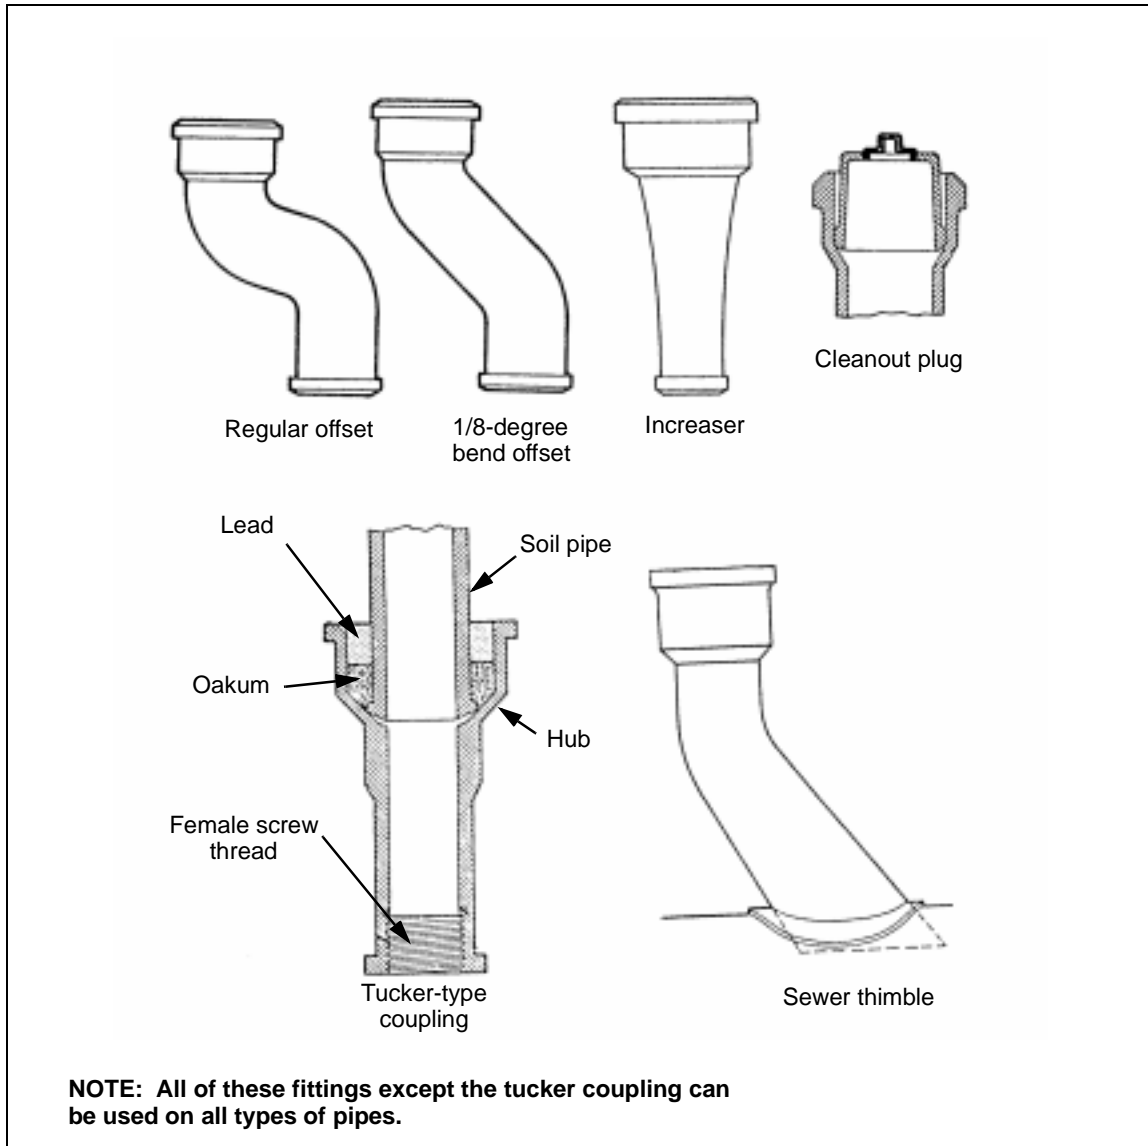

Figure 6-11. Cast-Iron Fittings
- **Offset.** An offset (*Figure 6-11, page 6-12*) carries soil or waste line past an obstruction in a building. Offsets are either regular or 1/8-degree bend. The 1/8-degree bend gives smoother transition than the regular one.
- **Increaser.** An increaser (*Figure 6-11, page 6-12*) increases the diameter of a straight-through pipeline. It is usually used at the top of a stack.
- **Cleanout.** The cleanout (*Figure 6-11*) is a removable, threaded plug placed in drainage lines for cleaning or removing stoppages.
- **Tucker coupling.** The tucker-coupling fitting (*Figure 6-11*) connects a hub-and-spigot pipe section to a threaded pipe section. This fitting has a hub on one end and female threads at the other end.
- **Sewer thimble.** The sewer thimble (*Figure 6-11*) is a special fitting that connects the building sewer line to the main sewer line.